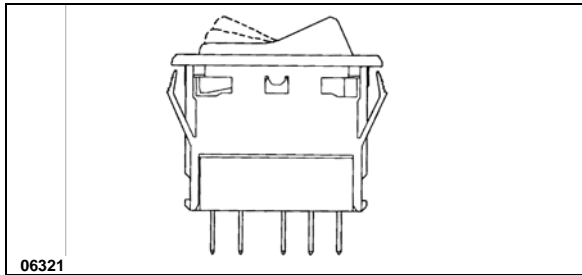

FIGURE 55: SWITCH
3. To install a new switch, reverse the procedure (Figure 55).